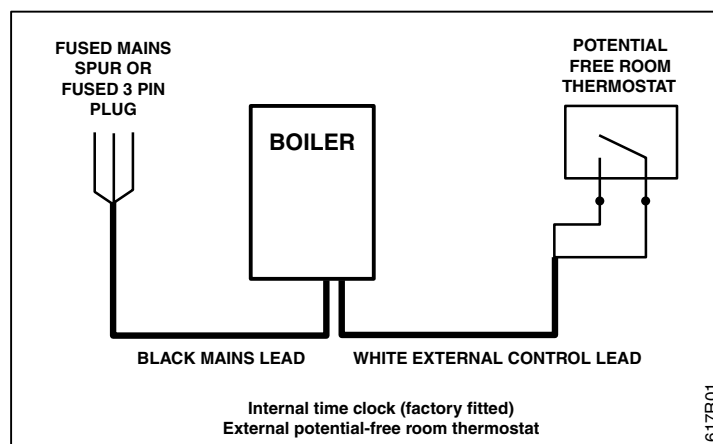

Figure 1
**ANY EXTERNAL HEATING CONTROL MUST BE POTENTIAL FREE (see Figure 1).**
If a room thermostat is required it must be connected to the external controls lead as shown in figure 1, using a suitable electrical connection.